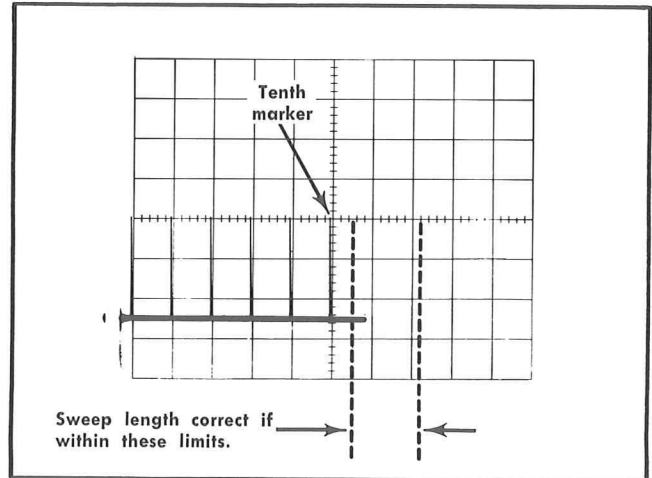

Fig. 5-24. Typical CRT display when checking sweep length.
a. Position the tenth marker to the center vertical line with the horizontal POSITION control (see Fig 5-24).
b. CHECK—Sweep length between 10.4 and 12.1 divisions as shown by 0.4 to 2.1 divisions of display to the right of the center vertical line (see Fig. 5-24).